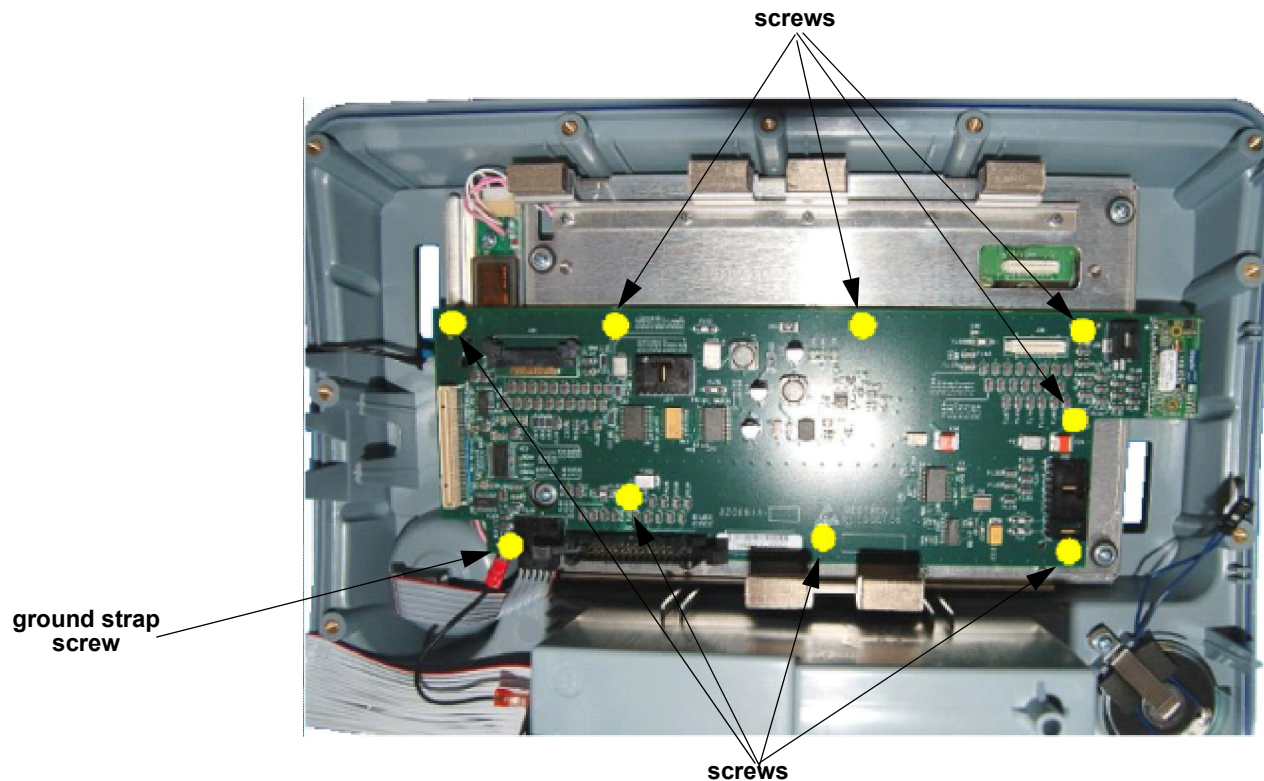

Figure 10.10—Interface PCB screw locations
5. Remove the eight remaining screws (202253-761) (see Figure 10.10 on p. 310). Discard the screws.
1. Attach the interface PCB to the bracket with the eight new screws (202253-761); torque to 6.8 in-lb (see Figure 10.10 on p. 310).
2. Install the ground strap (W19) with one new screw (202253-761); torque to 6.8 in-lb (see Figure 10.10 on p. 310).